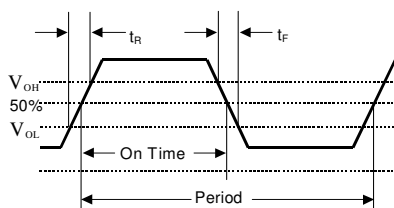
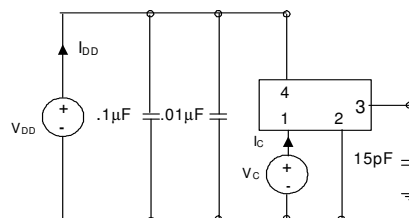

Figure 3: Output Waveform
Figure 4: Typical Output Test Conditions (25±5°C)
2. Parameter is defined in Figure 3 and tested as shown in Figure 4. For $f_O > 90\text{MHz}$, rise and fall time is measured 20 to 80%.
3. Symmetry is defined as On Time/Period (Figure 3).